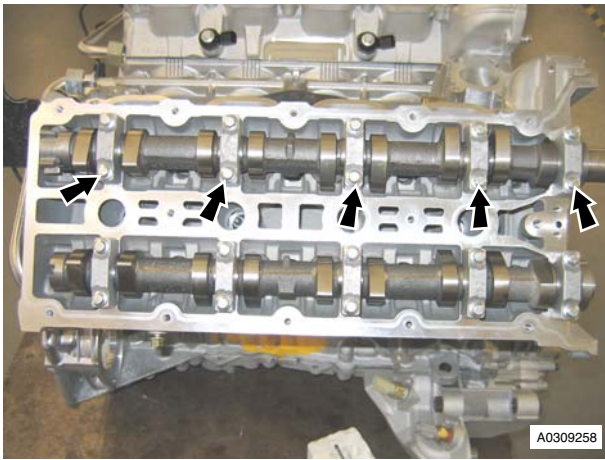

Figure 8
20. Remove the ten bolts evenly and in steps, that attach the bearing caps for the right intake camshaft (refer to Figure 8).